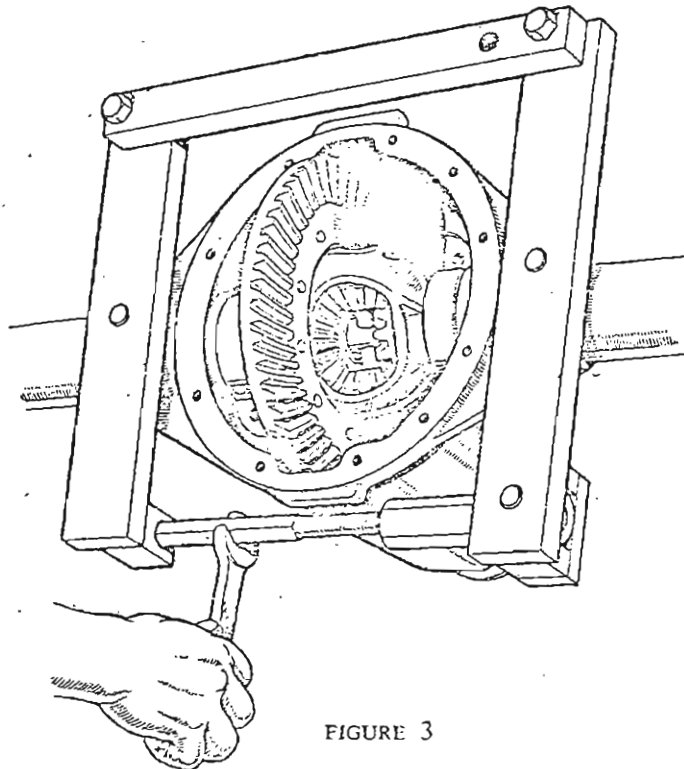

FIGURE 3
- (1) Withdraw the four bolts securing the two differential bearing caps and remove the two caps.
- (2) Before attempting to remove the differential assembly, fit the stretching fixture, Tool No. SL.1 (SE.104) in the Service Tool List, as shown in figure 3. The fixture should be adjusted to suit the model being serviced, a series of holes being provided in the member opposite the turnbuckle for this purpose. Open the fixture by means of the turnbuckle until it is hand tight, then spread the casing by using a spanner. **DO NOT OVER-SPREAD. OR THE CASING WILL BE DAMAGED BEYOND REPAIR.** The correct spread does not exceed a half turn on the turnbuckle, and this figure should not be exceeded even if the differential is still stiff to move.
- (3) The differential assembly may now be prised out by means of two levers, one on each side of the differential case opening. During this operation use suitable packing between the levers and the gear carrier.